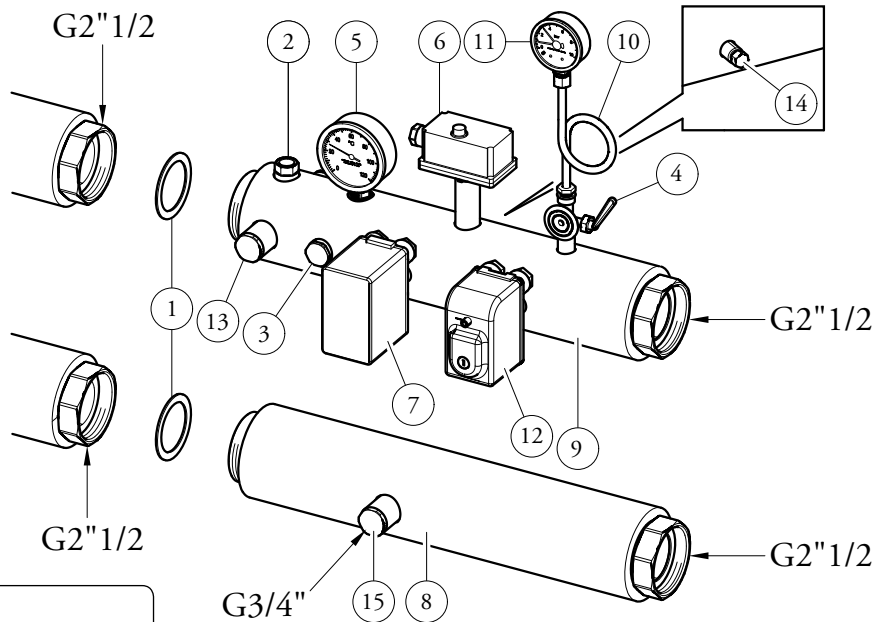

Fig. 2
Connect the safety kit pins as shown in figure 2, making sure to interpose the gaskets (1).